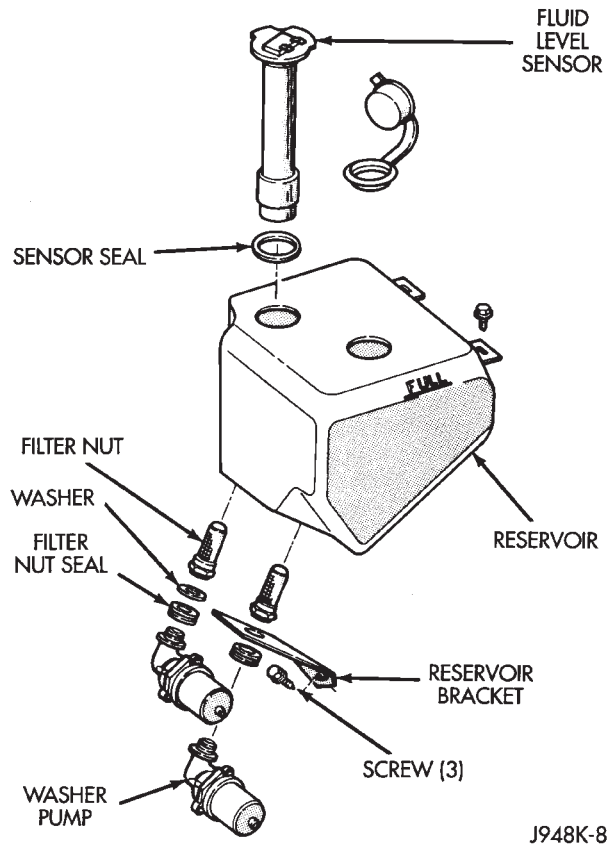

Fig. 7 Washer Reservoir and Pump
(1) Remove 3 washer reservoir mounting screws (Fig. 7).